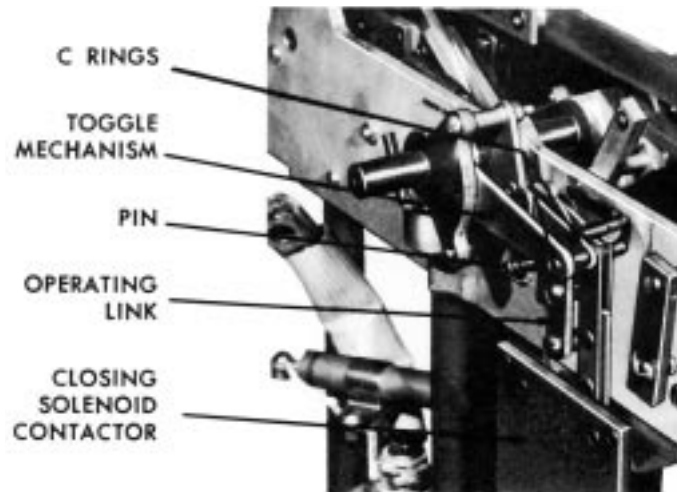

Figure 12
2. Remove three C rings to release pin that connects the operating link to the toggle mechanism, figure 12. Two C rings are between the operating link and toggle mechanism. The third is located on the outer end of the pin.